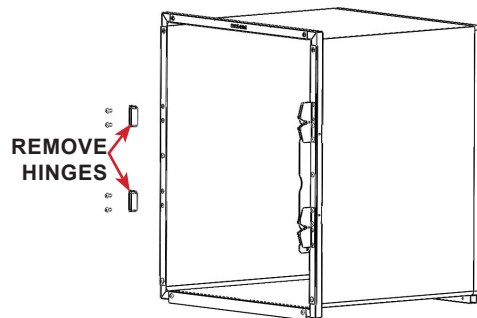

FIGURE 3.3 - Hinge Assembly Removal
**STEP 2:** Remove the hinge assemblies from the left side of the cage frame by removing the screws. See FIGURE 3.3